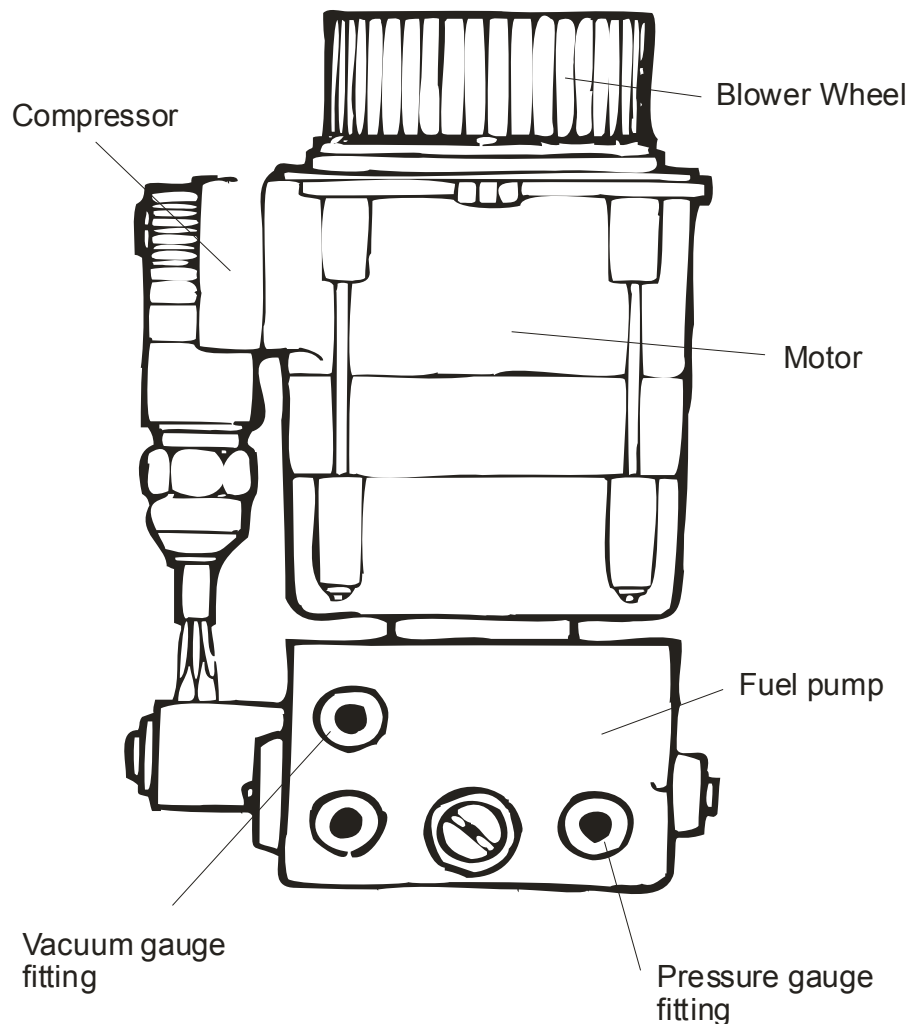

Figure 5-14. Airtronic Burner Power Pack Assembly
i. **Step 9.** Now remove the entire power pack, as shown in figure 5-14 (consisting of the motor, compressor, fuel pump, and blower wheel), by unscrewing the two 10mm hex nuts holding the motor mounts to the upper fan housing.